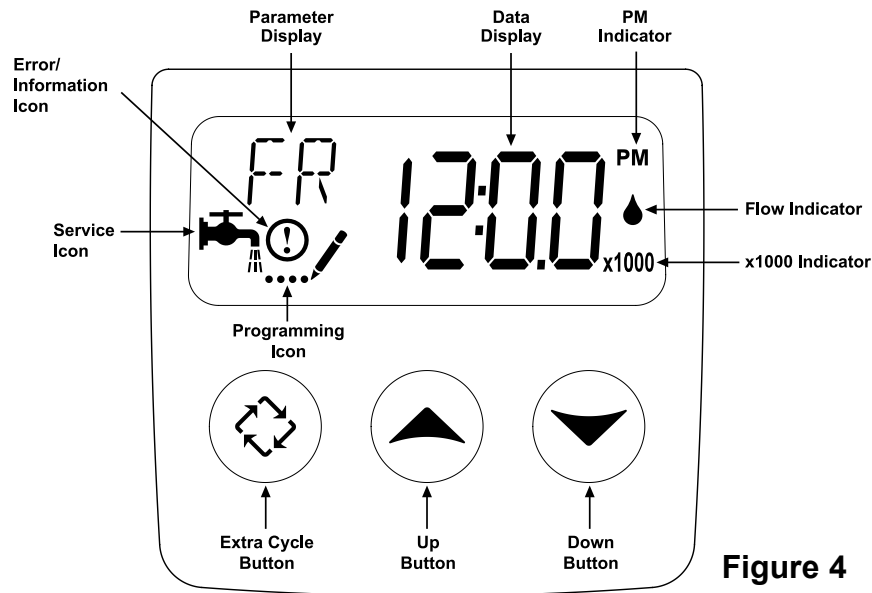

Figure 4
9. Plug the 24-volt transformer into a 120 VAC 60 Hz outlet. This valve has four positions: 1) Backwash 2) Brine/Rinse 3) Rapid Rinse and 4) Brine Refill. When the valve is in the Service position, the extra cycle button (far left button as shown on Figure 4) must be pressed and held for 5 seconds before it activates. Press and hold the extra cycle button for 5 seconds to advance the valve into the "1" Backwash position. Slowly turn on the water supply and allow the unit to backwash until the air purges out of the tank and clears the system.